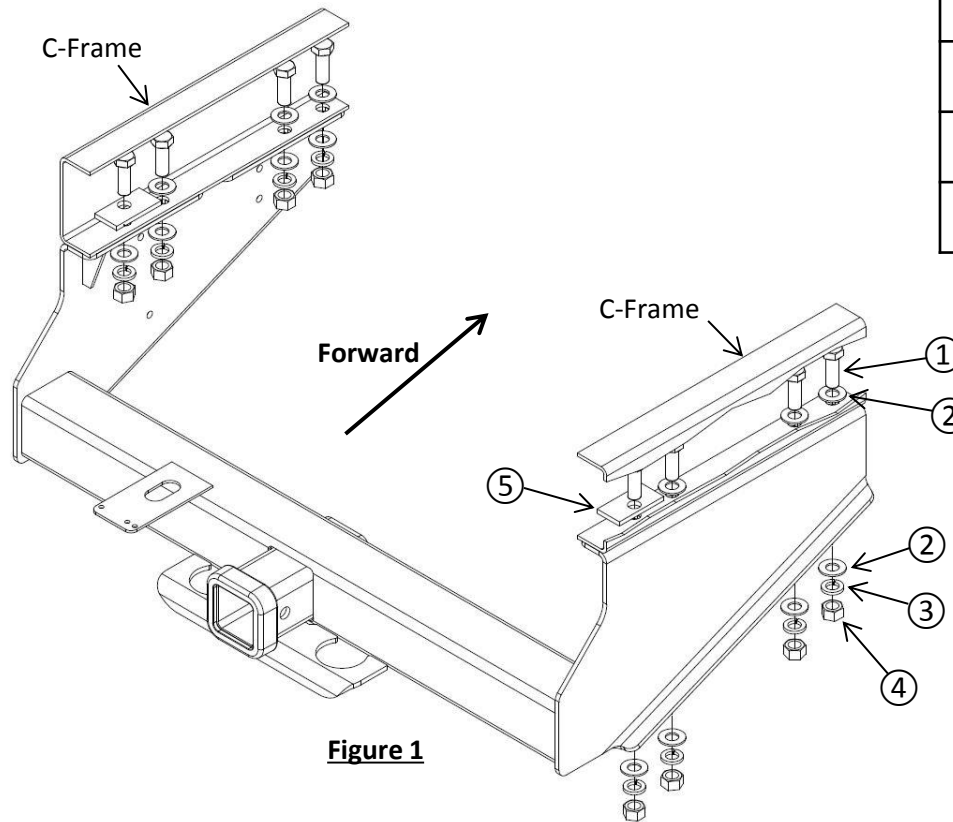

Figure 1
- Install Rearward Fasteners** – On each side, insert (1) 5/8" bolt and (1) spacer in rear most hole in frame as shown in Figure 1.
- Raise Hitch into Position** – Lift hitch into position and align the holes in the hitch with the holes in the frame. Using (1) 5/8" flat washer, (1) 5/8" lock washer, and (1) 5/8" nut on each protruding 5/8" bolt.
- Install Remaining Fasteners** – In the remaining (6) holes install (1) 5/8" bolt and (1) 5/8" flat washer through the frame and install (1) 5/8" flat washer, (1) 5/8" lock washer, and (1) 5/8" nut on each bolt.